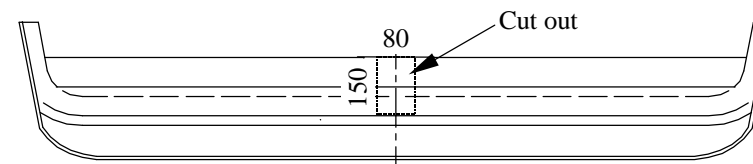

Fig. 2
7. So prepared elements of the towbar fix with jibs (pos. 8) in marked points (pos. C and D).
8. Install the bumper after cut out of its fragment 80x150mm, as showed on the fig. 2.